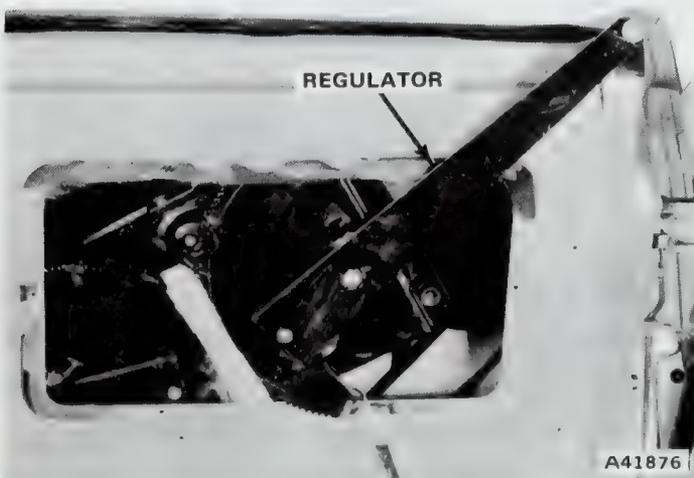

Fig. 3H-25 Tailgate Window Regulator Removal
(1) Remove tailgate glass assembly.
(2) Remove access hole covers.
(3) Move regulator arms to a horizontal position with key switch.
(4) Disconnect motor wiring from harness.
(5) Mark regulator position on mounting panel for installation and alignment purposes.
(6) Remove regulator mounting screws. Remove regulator and motor assembly through access opening (fig. 3H-25).